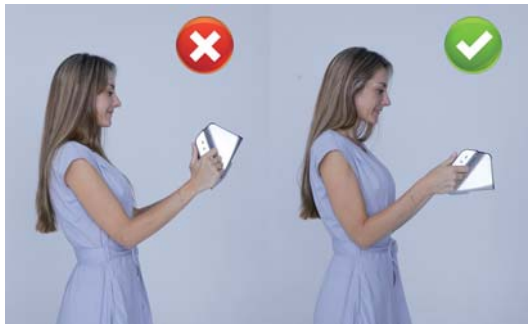

Figure 5-3 Orientation of the AI-Optic Vision Screener during shooting
**Note:** During shooting, make sure that the camera is oriented vertically, as shown in Figure 5-3.